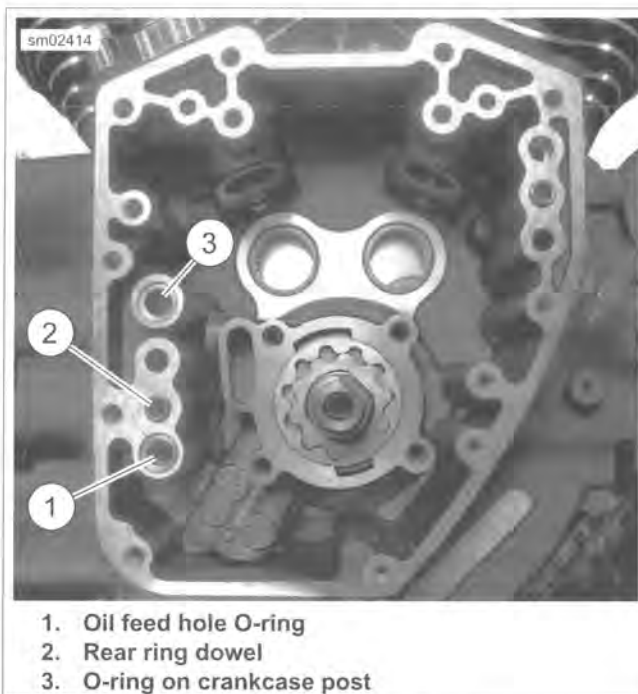

Figure 3-106. Oil Feed Hole
1. See Figure 3-106. Apply a very thin film of SCREAMIN' EAGLE ASSEMBLY LUBE to **new** O-ring (1) and install in groove around oil feed hole.